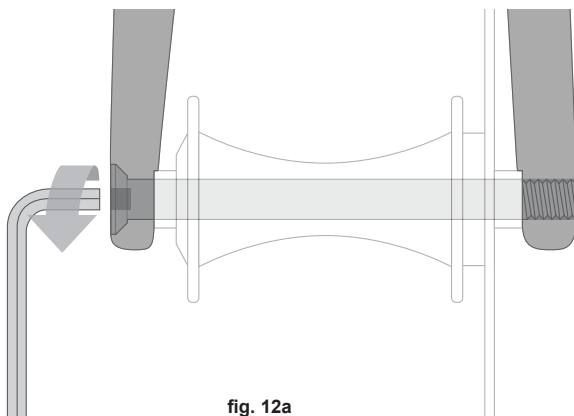
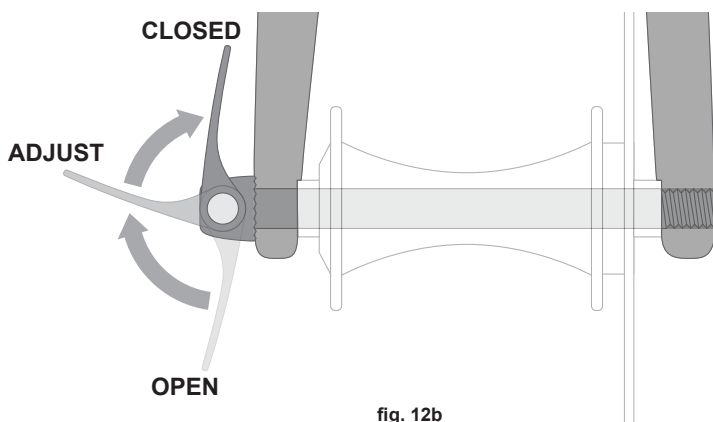

fig. 12a
fig. 12b
a. Adjusting the thru axle mechanism (fig. 12a & 12b)
The thru axle is inserted through the unthreaded hole in the frame or fork's dropout, through the wheel hub, and is threaded directly into the opposing dropout by tightening the thru axle. Common installation methods may use an Allen hex key (fig. 12a) or a cam lever (fig. 12b). Please refer to the manufacturer's instructions for specific information about your thru axle's operation, including correct torque specifications or lever adjustment information.
(4) If your bike has a thru-axle front wheel mounting system (figs. 12a & 12b), loosen and remove the thru axle according to the manufacturer's instructions, then remove the front wheel.
- (c) With a thru axle system, tighten the thru axle (figs. 12a & 12b) according to the manufacturer's instructions.
(5) If your bike has a thru-axle rear wheel mounting system (figs. 12a & 12b), loosen and remove the thru axle according to the manufacturer's instructions.
(6) Push the rear wheel forward far enough to be able to remove the chain from the rear sprocket, then lift the rear wheel off the ground a few inches and remove it from the rear dropouts.
(c) With a thru axle system, tighten the thru axle (figs. 12a & 12b) according to the manufacturer's instructions.